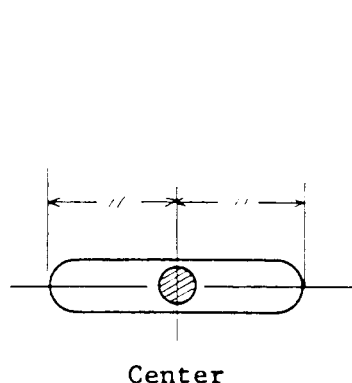

Fig. 7
4. Turn machine pulley slowly until needle descends into the needle hole in throat plate (for zigzag stitching) and check whether or not the needle is properly located in the center of the needle hole (Fig. 7).